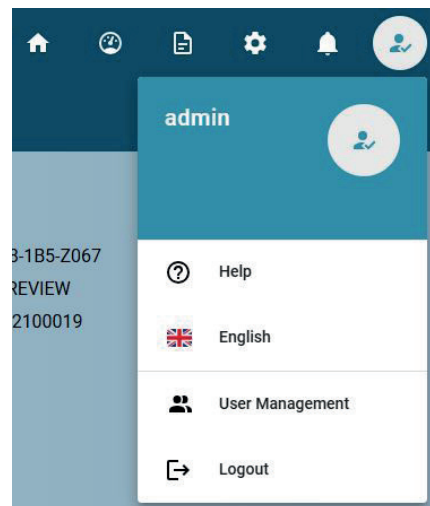

Fig. 8-3: User menu (logged in)
When logged in, users with the *ADMIN* role can also see the user management (see Fig. 8-3).
- Log out with *LOGOUT* (see Fig. 8-3 on page 93).